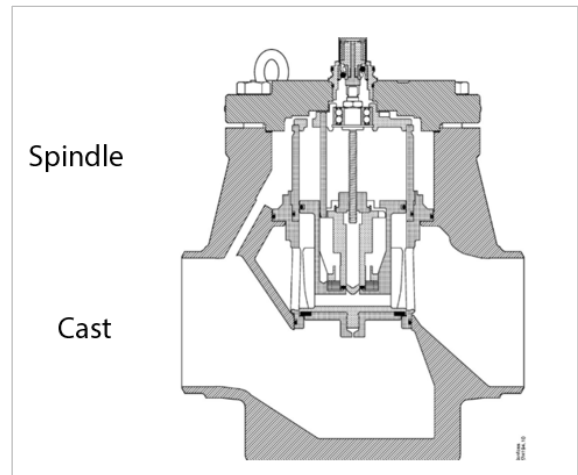

Figure 1
- Increasing spindle thread diameter from 8 to 10 mm. (see Figure 1)
- Changed the nut going from M8 thread to M10 (see Figure 1)